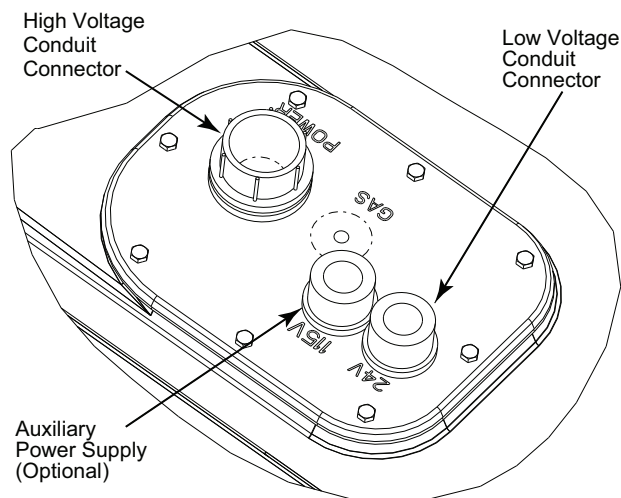

Fig. 30 — Thru-Base Connection Fittings
The 3/4 in. bulkhead connector enables the low-voltage control wires to pass through the basepan. The 1/2 in. bulkhead connector allows the high-voltage power wires to pass through the basepan. See Fig. 30.
3. Place the gasket over the embossed area in the basepan, aligning the holes in the gasket to the holes in the basepan. See Fig. 30.